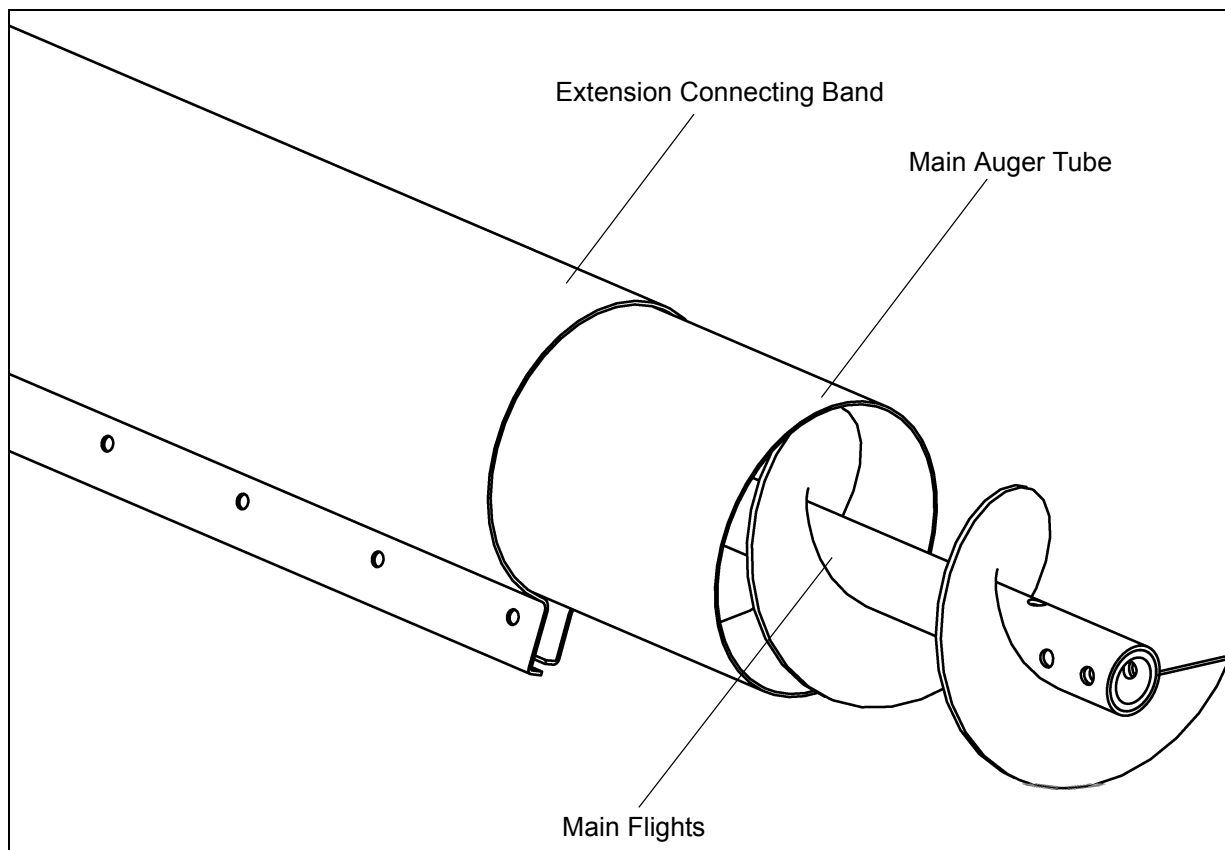

Figure 4A
1. Begin by sliding the extension connecting band onto the main auger tube (Figure 4A).